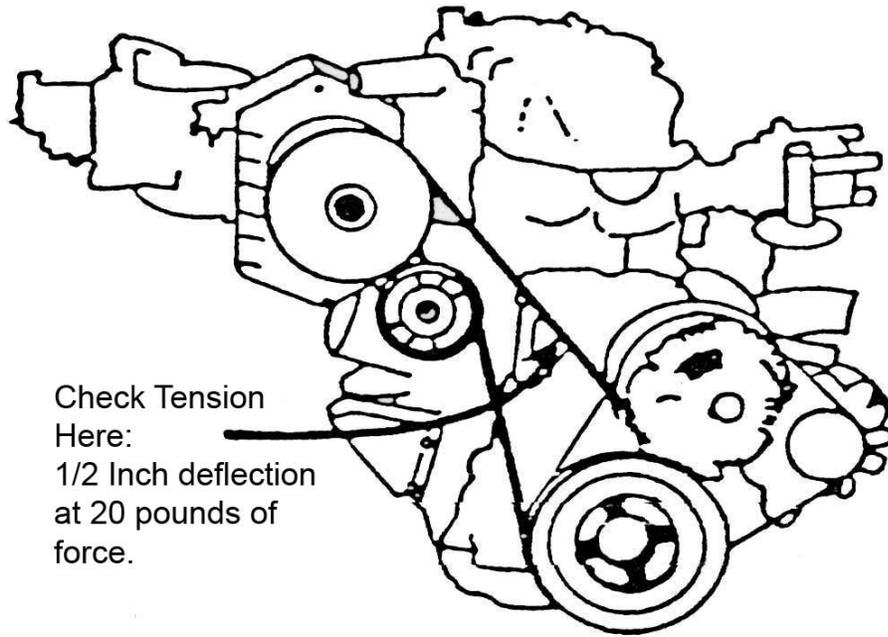

Figure 5
26. Install the supercharger drive belt and adjust the tension with the idler pulley adjustment. Visually line up the idler pulley with the belt before tightening the clamp bolt. Make sure there is clearance between the front of the idler arm and the back of the supercharger pulley. The belt is tensioned properly when a 20 lb. force applied mid-span on the tension strand results in a 1/2 inch deflection, *Figure 5*.